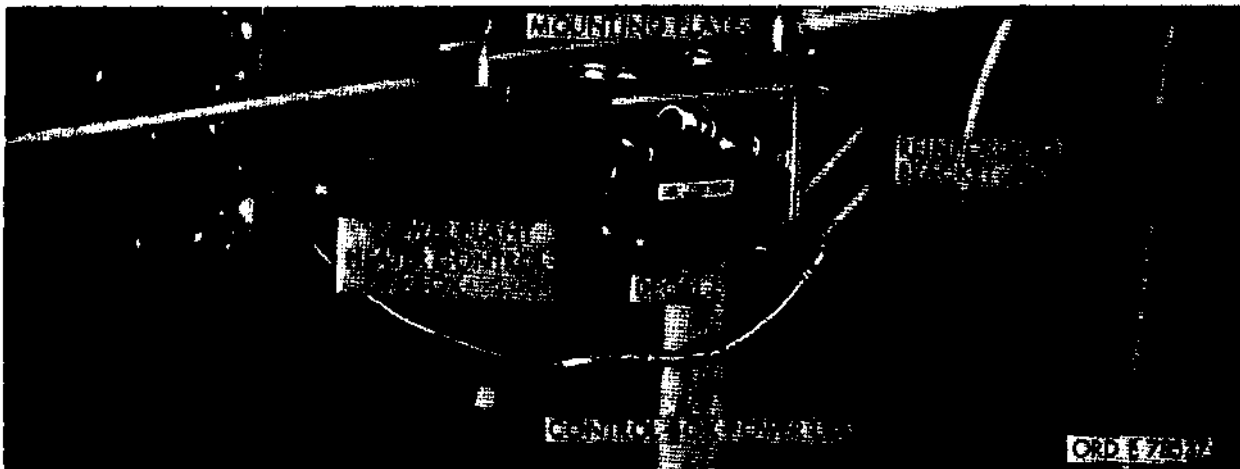

Figure 711. Installation of power plant heater control box.
- (1) Butt heater control box mounting plate 10931992 against instrument panel lip (fig. 711) on reinforcing bracket center plate on bracket.
- (2) Using plate 10931992 as template, locate mounting holes.
- (3) Center punch and drill two 5/16 dia. holes located in (2) above.
- (4) Attach plate 10931992 to control box 10885798 using existing screws and nuts on control box,
- (5) Attach plate and box assembly to bracket using two $\frac{1}{4}$ -28x $\frac{1}{2}$ screws MS 96906-
- (6) Place decal 10896514 on front of heater control box panel, approximately as indicated in figure 711.